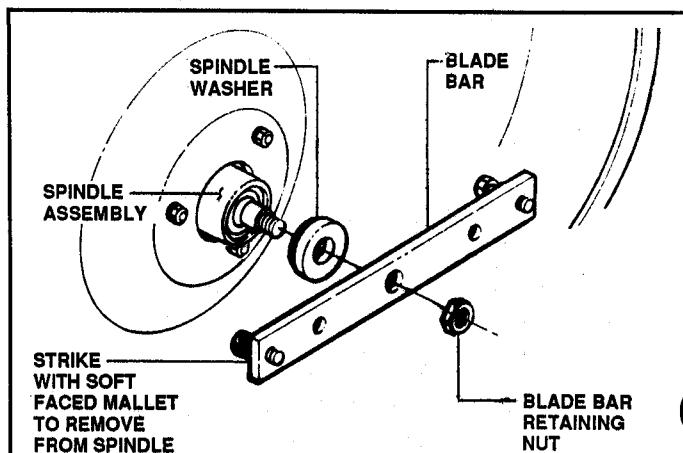

FIGURE 3.18
8. Remove spindle washer. See Figure 3.18.